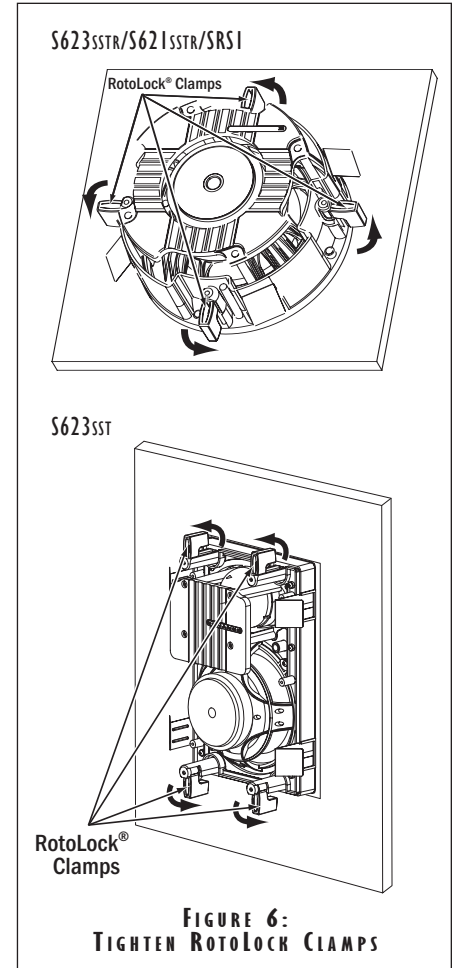

FIGURE 6: TIGHTEN ROTOLOCK CLAMPS
6. Tighten the four screws on the front of the speaker baffle. The RotoLock clamps will automatically rotate into position and begin clamping the speaker (Figure 6).